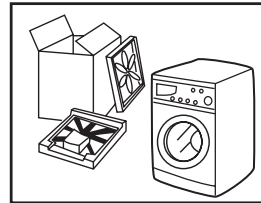
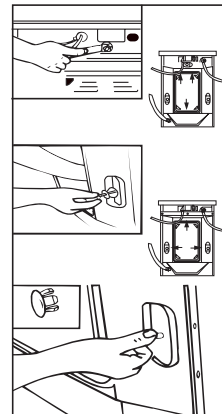

Fig.1
Fig.2
- Remove all the packing materials (including the foam base) to prevent vibration during use, as shown in Fig. 1.
- Dismantle the packing bolts as shown in Fig. 2.
When open the shrink package, you will find a calcium plastic board which is laid on the top of washing machine as shown in fig.1. The board is used for reducing noise by pasting it under the cabinet when setting as shown in fig.2.